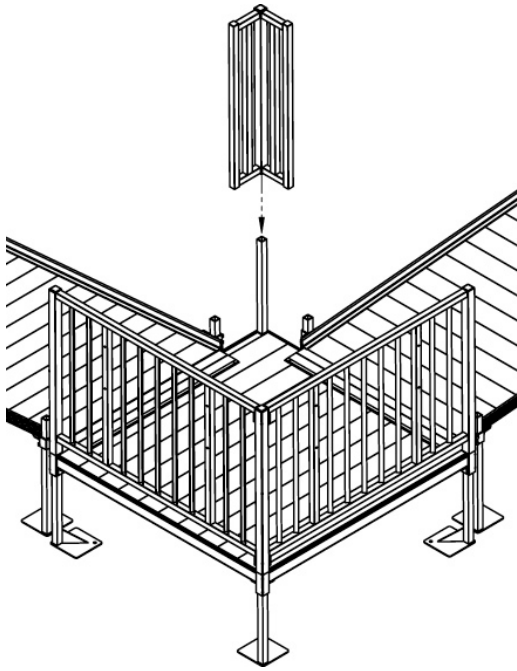

FIG. 27
- 5.5 If platform is used as a turn from one ramp to another (FIG. 27):